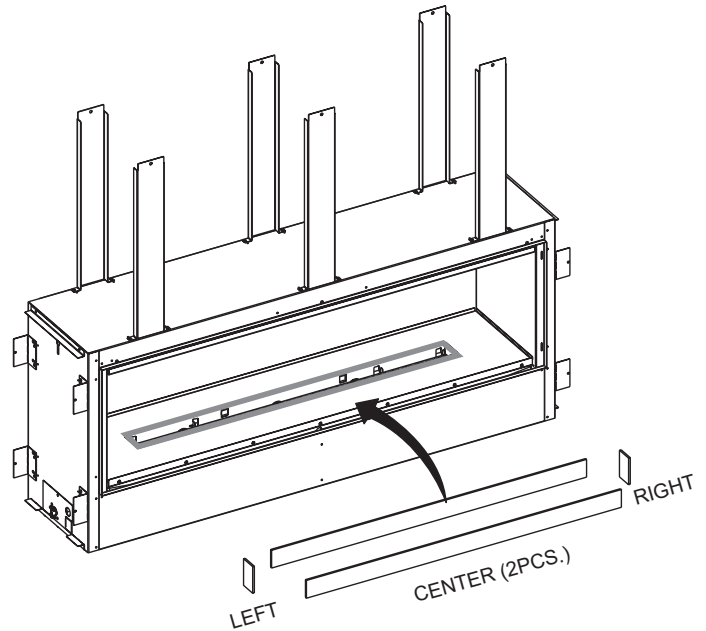

Figure 50
5. Retrieve the 4 glass panels and install on front, back and both sides of burner. See **Figure 50**.